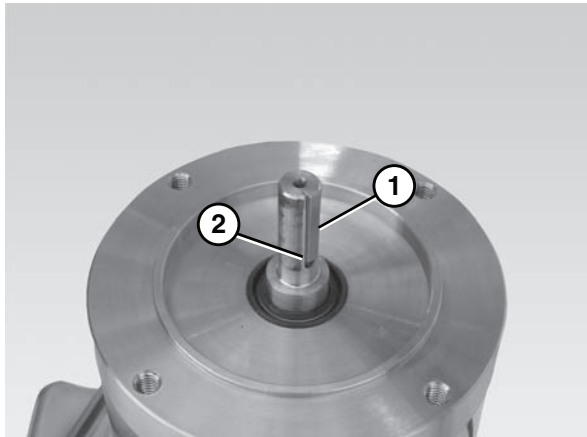

Figure 46
7. Insert the motor output shaft key (Figure 46, item 1) into the motor output shaft keyway (Figure 46, item 2).
**Ensure the gearmotor output shaft key (Figure 46, item 1) is situated properly before attaching the motor to the gear reducer.**